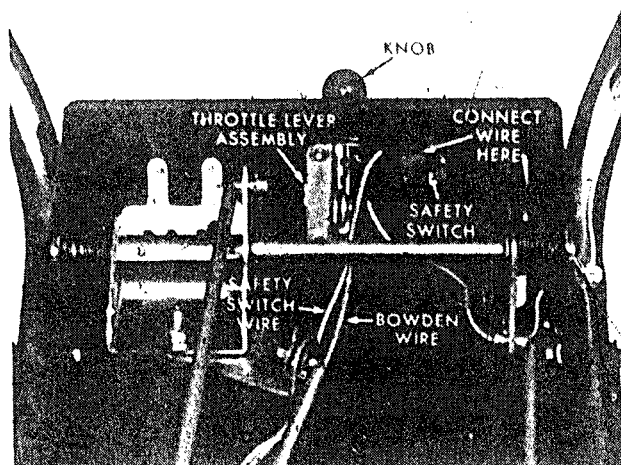

Figure 2
4. Attach the throttle lever assembly with two #10 24 x 5/8" capscrews and locknut to the underside of the control panel as shown in Fig. 2. Be sure there are no kinks in the Bowden wire. Tap the knob onto the throttle lever.